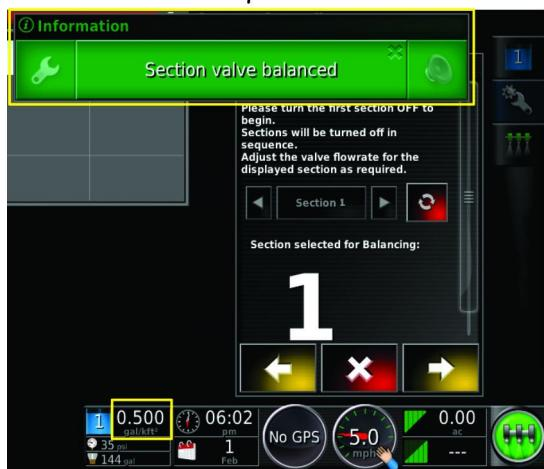

Figure 148
- 7. The Section Valve Balanced message appears, and the valve balance wizard automatically advances to the next section valve (Figure 148).